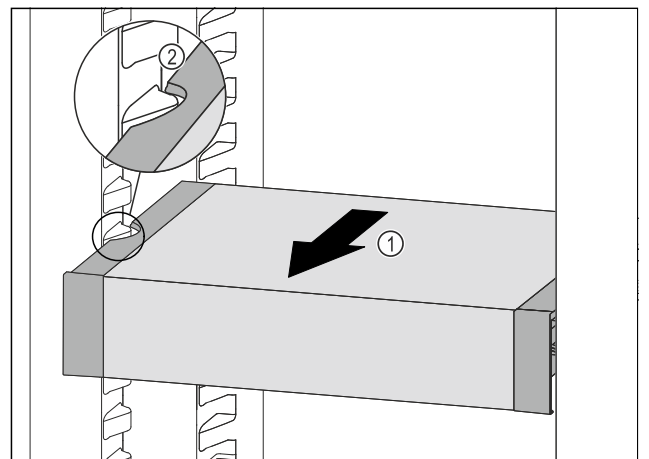

Fig. 130
- ▶ Pull VarioSafe forward Fig. 130 (1) until the recesses in the side of the VarioSafe are at the level of the support rib in the refrigerator compartment. Fig. 130 (2)